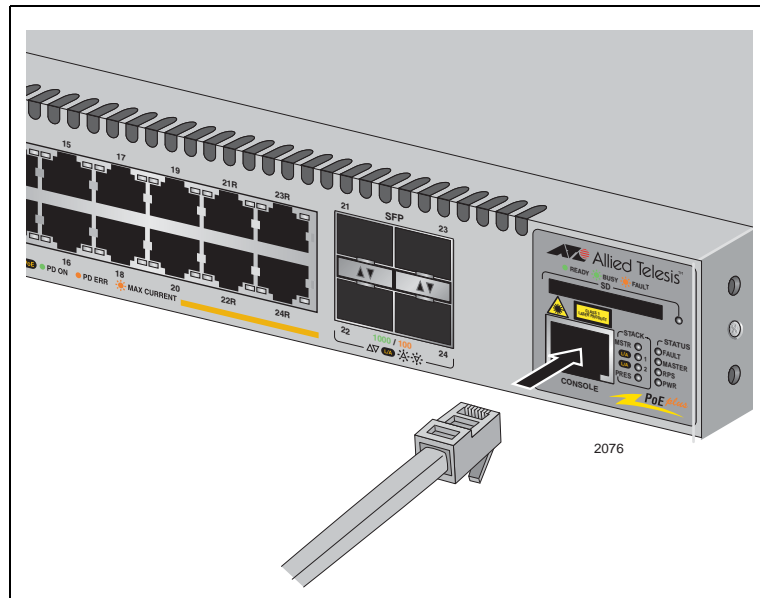

Figure 60. Connecting the Management Cable to the RJ-45 Terminal Port on the Switch
1. Connect the RJ-45 end of the management cable included with the x610 switch to the Terminal Port on the front panel of the switch, as shown in Figure 60.